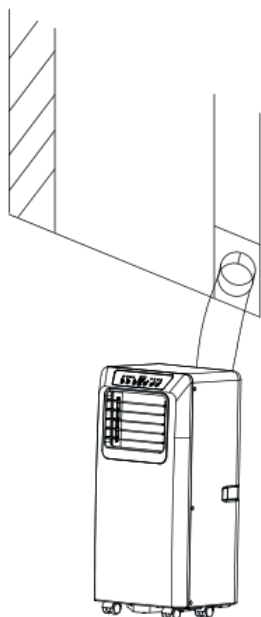
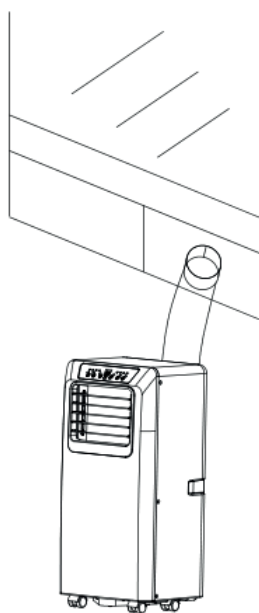

Fig. 6
Fig. 6a
- 2) As shown in Fig. 6 and Fig. 6a, install the exhaust hose and adjust the window position appropriately.